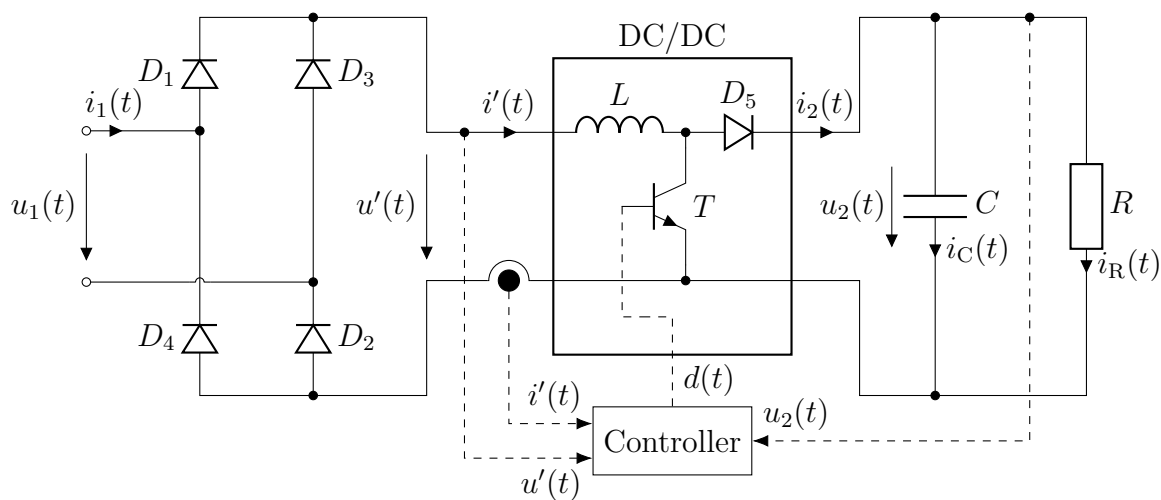
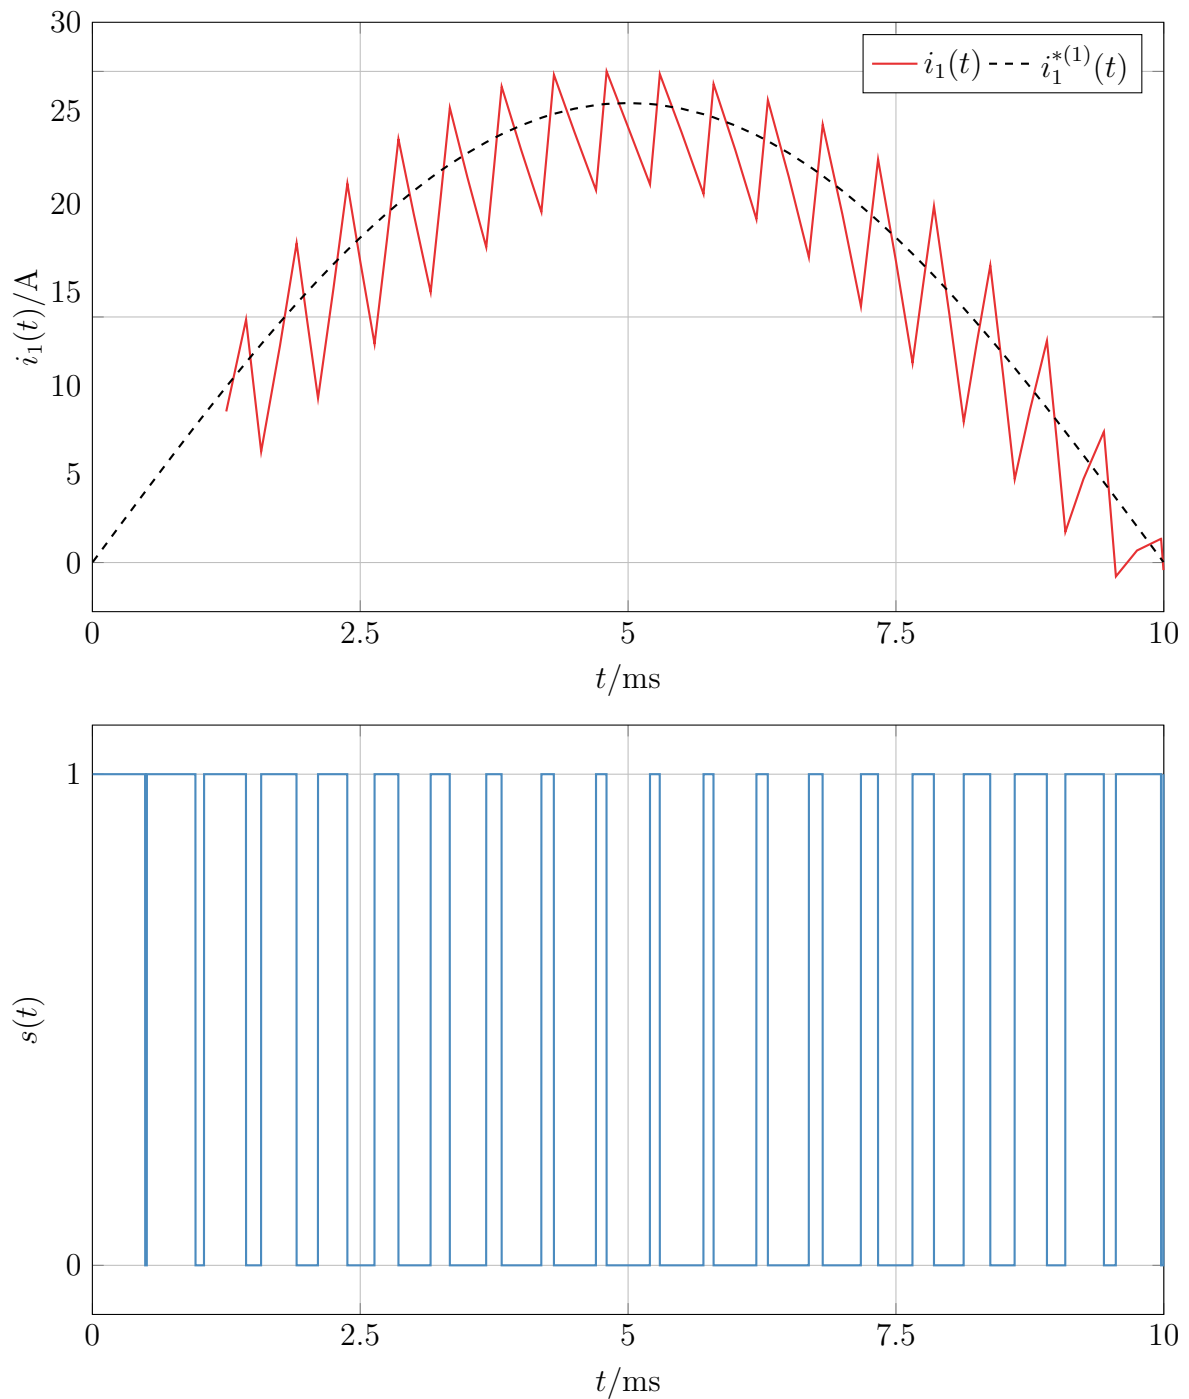
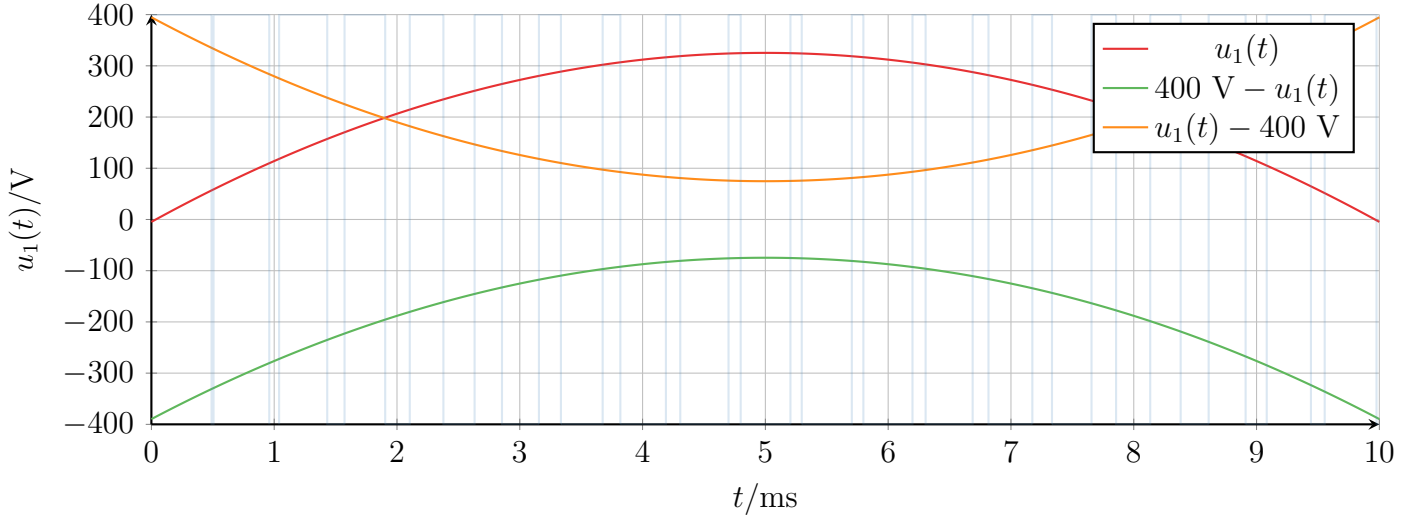

Figure 5.2.1: PFC rectifier with single-phase diode bridge and a cascaded DC/DC boost converter.
Figure 5.2.2: Incomplete representation of the mains current $i_1(t)$ and control signal $s(t)$ for power transistor T .
Figure 5.2.3: Voltage curve $u_1(t)$ with signal for transistor T .
Due to the constantly increasing load on the grid with harmonics as a result of the use of power converters, the regulations regarding the permissible harmonic content of the current consumption of electrical consumers are being tightened. It is therefore necessary, e.g. for the rectification of single-phase AC mains voltage, to design power converters with a high power factor. A variant of a PFC rectifier circuit is shown in Fig. 5.2.1. The prerequisite for the use of the boost converter is: $u_2 = U_2 > u'(t)$. The boost converter is operated with a pulse width modulated (PWM)-based controller for which the switching frequency f_T has a constant value $f_T = 20 \text{ kHz}$. CCM is assumed as the operating mode.
5.2.4 Complete the current curve for a switching frequency $f_{s2} = 2 \text{ kHz}$ and an inductance $L = 5 \text{ mH}$ in Fig. 5.2.2. Note: At the time $t = 0$ is $i' = 0$. The switch-on and switch-off times are determined by
The values determined in this task for mains current $i'(t)$ must be entered in Fig. 5.2.2. This results in Sol.-Fig. 5.2.1. Figure Sol.-Fig. 5.2.2 shows that with this type of PWM current open-loop control, an nonphysical duty cycle signal of $d(t) > 1$ is necessary at the beginning of the period. This results in a open-loop control deviation, that is, a mismatch between the reference and the actual current cruves. An alternative to prevent this deviation would be to implement a feedback control system. This closed loop allows the deviation caused by $d(t) > 1$ to be compensated for downstream. An Ngspice project titled “PFC Rectifier” is available in the GitHub course repository. It contains the Ngspice simulation of the assignment and is intended for visualization and self-study purposes.
Solution Figure 5.2.1: Overall representation of the mains current i' and transistor T control signal.
Solution Figure 5.2.2: Reference signal $c(t)$ and duty cycle signal $d(t)$.
5.2.5 Approximately sketch the envelope of the current ripple in Fig. 5.2.2. Sketch the voltage across the inductor in Fig. 5.2.3 and enter the average value of the voltage as an approximation. How would the switch-on/switch-off ratio of the transistor have to be changed before and after the current peak in order to bring the average actual current value closer to the current setpoint?
The envelope of the current ripple is sketched in Sol-Fig. 5.2.1. In addition, the voltage at the inductor is sketched in Sol-Fig. 5.2.3. The mean value of the voltage across the inductance is zero. To bring the average actual setpoint value closer to the setpoint current value, the transistor must be switched on for longer before the current maximum in Sol-Fig. 5.2.1 and the switch-on phase must be shortened after the current maximum. By adjusting the switching ratio in this way, the current can be better regulated.
Solution Figure 5.2.3: Voltage curve $u_1(t)$ with signal for transistor T and voltage across the inductor.